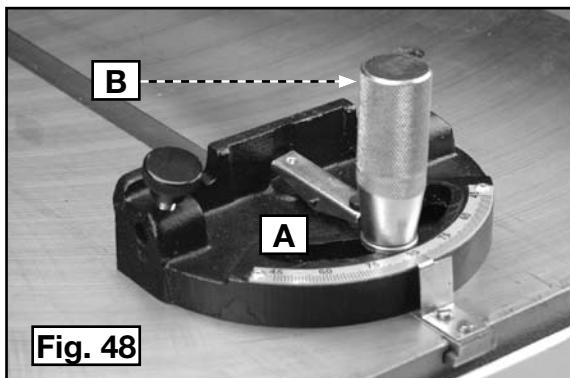

Fig. 48
You can adjust the miter gauge (A) Fig. 48 right and left by loosening the locking handle (B), pushing down on lever, and rotating the miter gauge body. Lock the body in position with the locking handle (B)